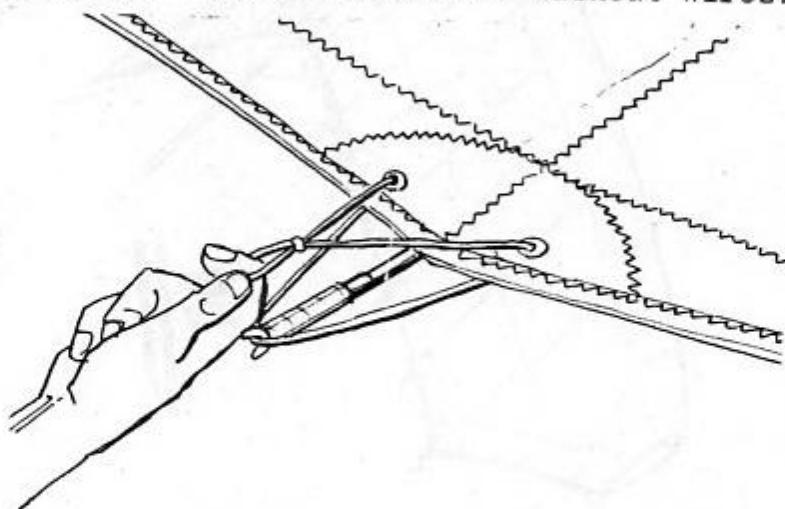

Fig. 3.2.16.
9. Secure the rear end of each top surface batten by first looping the bottom loop of leech line around the notched batten end, and then attaching the top loop using the extra loop as a handle (Fig. 3.2.16, 3.2.17).